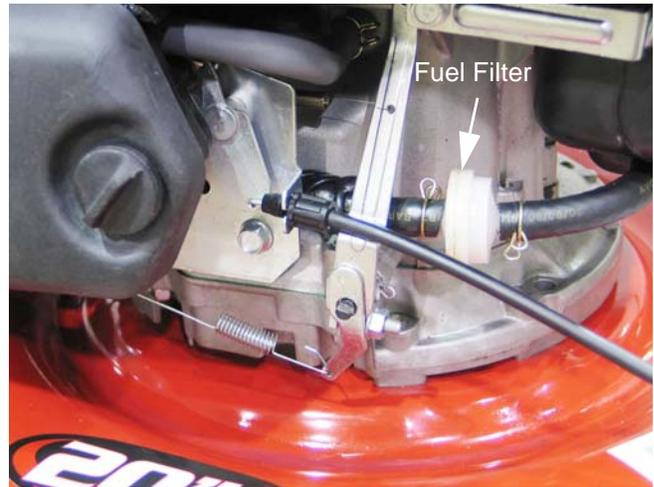

Figure 1.10
1. Some of the early engines were equipped with a fuel filter placed between the fuel tank and the carburetor. See Figure 1.10.